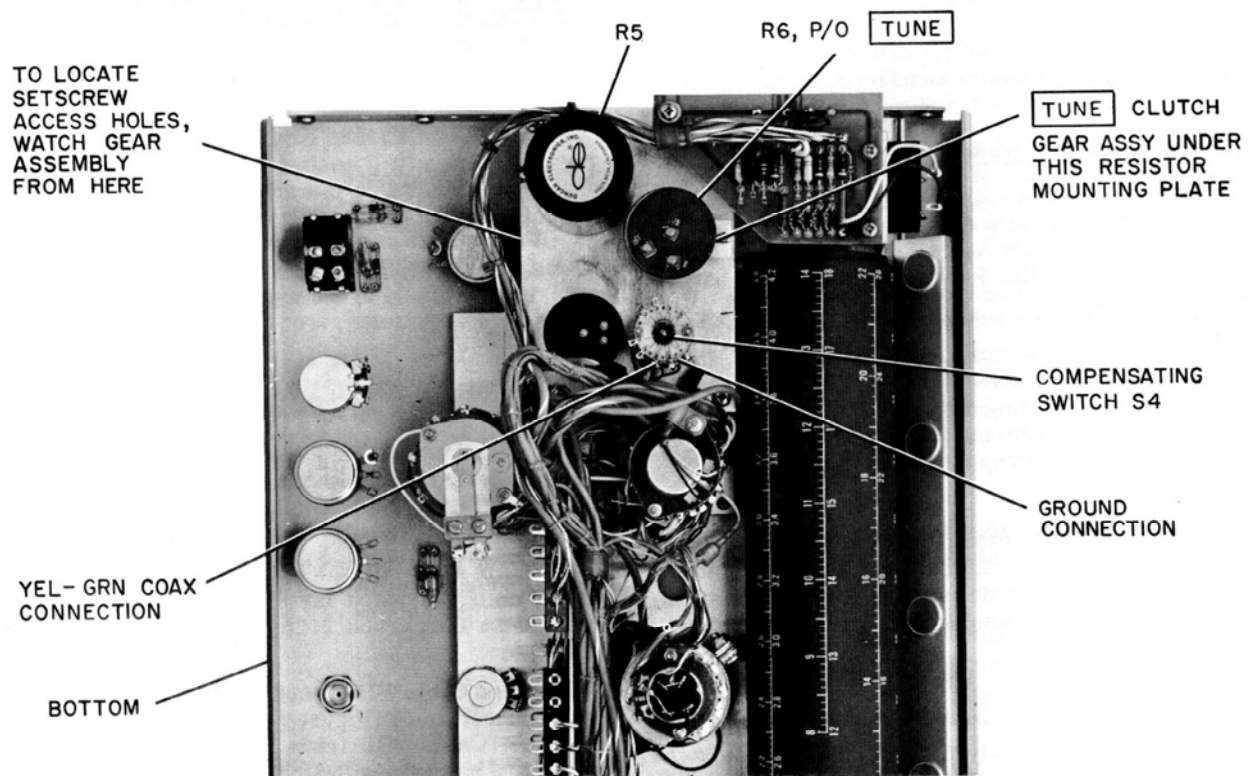
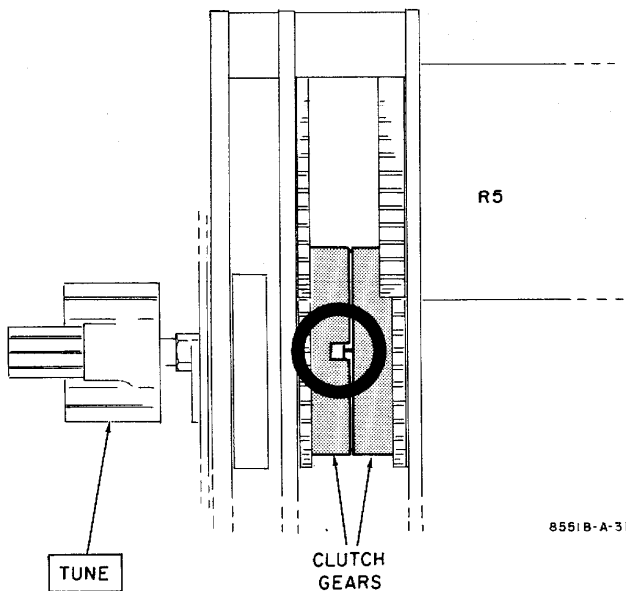

Figure 5-29. Portion of Rear of Front Panel, to Show Location of R6 and TUNE Clutch Gear Assembly, and Orientation of Gain-Compensating Switch S4
Figure 5-30. Setscrew-hole Locator in TUNE Clutch Gear Assembly
- (1) Locate Clutch Gears 77 and 82. They are located under the resistor mounting plate (see Figure 5-29), and can be seen when the gear assembly is viewed from the direction indicated in Figure 5-29. Location of clutch gears with respect to other gears seen looking in from bottom of instrument is indicated in Figure 5-30.
- (2) Pull TUNE out to COARSE position, and turn TUNE until slot is visible.
- (3) Push TUNE in to FINE position, and turn TUNE until setscrew-hole locator is visible. Setscrew-hole locator is shown in Figure 5-30; it is a narrow slot which can be seen through the larger slot.
- (4) When setscrew-hole locator is found, pull TUNE out to COARSE again. The first setscrew access hole is now exposed.
h. Using No. 8 Allen wrench to loosen setscrews (2), remove TUNE knob. TUNE knob is secured with cup-point setscrews, and shaft will be scored; file shaft smooth or shaft cannot be pulled out of panel and gear bearings.
j. Locate R6 (see Figure 5-29), and disconnect red lead from R6 Terminal 1 and white lead from Terminal 3.
r. Return TUNE knob to shaft and, using No. 8 Allen wrench, tighten setscrews (2).
- (1) Perform steps a, b, and c above.
- (2) Free front panel (see Paragraph 5-229), and drop it about 45 degrees.
- (3) Locate R7 (see Figure 5-29), and unsolder the yellow-red coded wire from Terminal S, the black wire from Terminal CCW, and the white wire from Terminal CW.
- (4) Loosen the 2 setscrews in the R7 shaft coupler.
- (5) Remove nut and lockwasher securing R7 to mounting bracket.
b. Location of Gain-Compensating Switch S4 on rear of front panel is shown in Figure 5-29. Note orientation of switch.